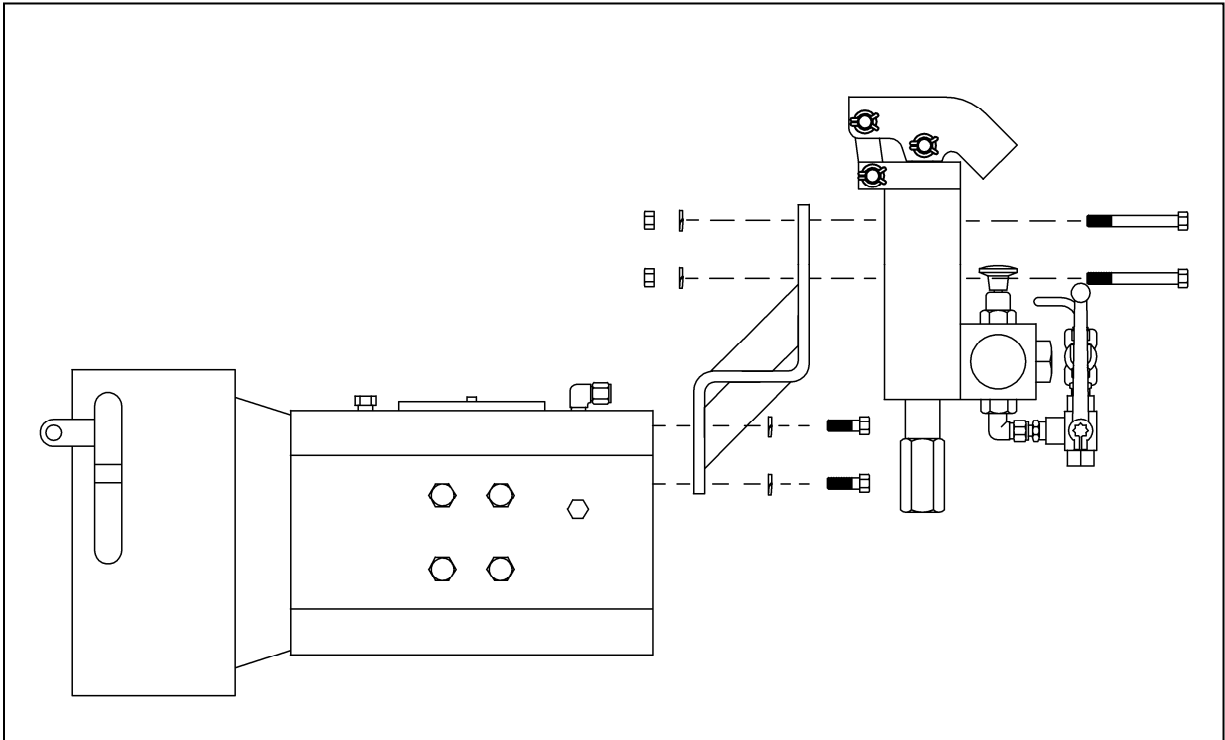

Figure 3: Installation of new hand pump
5. Install the new universal hand pump mounting bracket using the mounting holes for the old hand pump. (See Figure 3)